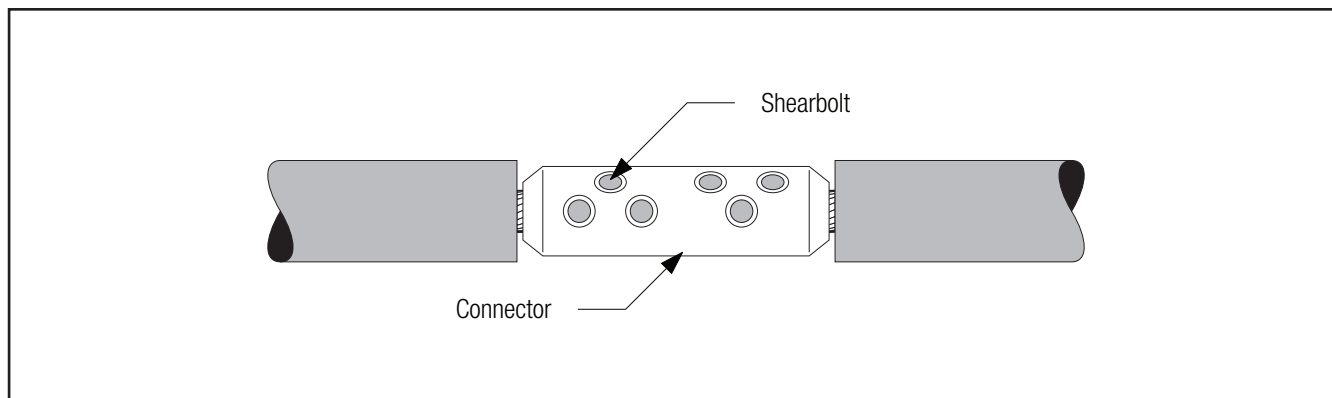

Figure 7
- 3.2 Install 3M Shearbolt Connector QCI 350-750 or QCI 500-1000 according to the instructions included with the connector (*Figure 7*).